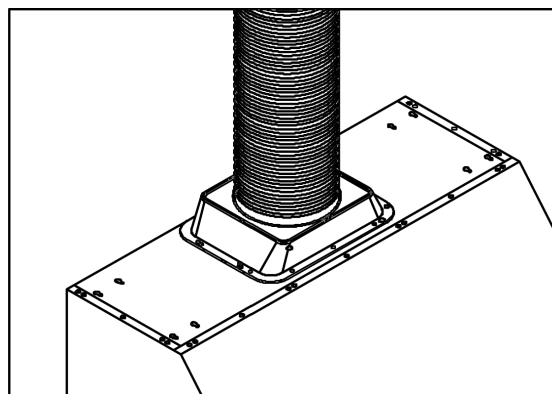

Figure 5
Step 3 : Use 7" round steel pipe (follow building codes in your area) to connect the exhaust on the hood to the ductwork above. Use silver tape or duct tape to make all joints secure and air tight. Refer to Figure 5. **SAFETY WARNING:** Risk of electrical shock. this range hood must be properly grounded. Make sure this is done by qualified electrician in accordance with all applicable national and local electrical codes. Before connecting wires, switch power off at service panel and lock service panel to prevent power from being switched on accidentally.
Use an 8" round metal pipe (follow building codes in your area) to connect the exhaust on the hood to the ductwork above, as illustrated in figure 5. Use duct tape to make all joints secure and airtight.